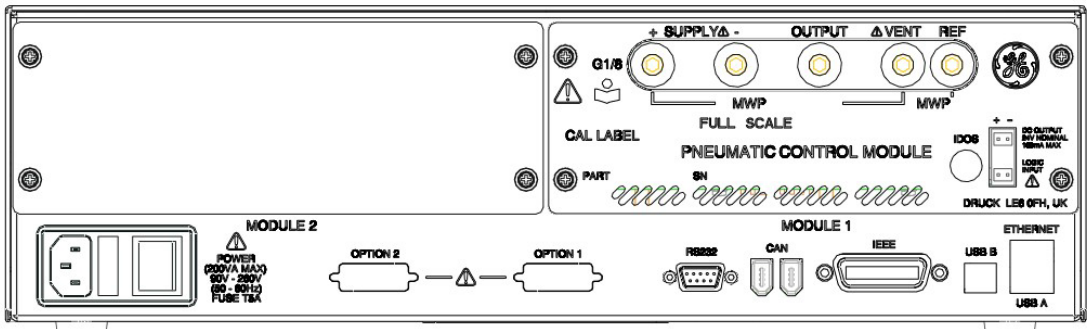

Figure 2-2 Pressure module rear view
- The module with the highest pressure rating is fitted to the right hand side Module 1 position as viewed from the rear of the product refer to (Ref: Figure 2-2).